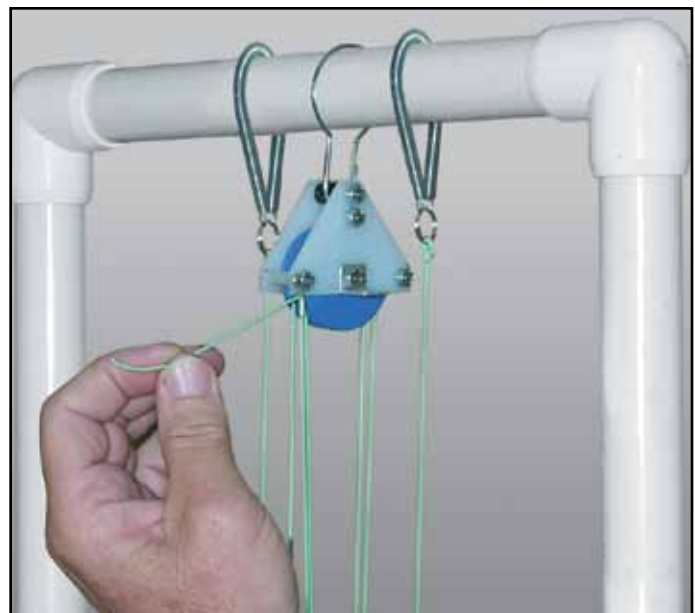

Figure 17
- f. Pull the line up to the top pulley and thread it through the tube in the tie-off lug (Figure 17). When the line is through the lug, pull the two pulley blocks apart until the lower block hangs 7" to 8" above the guideline support bar at the bottom. Tie a knot in the end of the line to hold it in place at the tie-off lug.